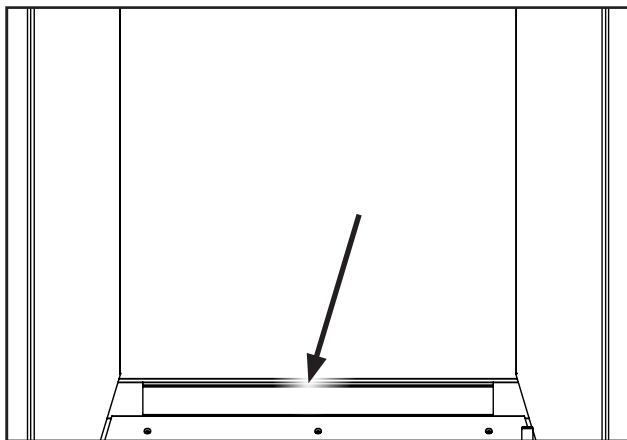

Figure 44. Rear Panel Ledge.
5. Install the rear porcelain panel first by sitting it on the ledge at the rear of the firebox (see figure 44), then follow with the left and right panels.